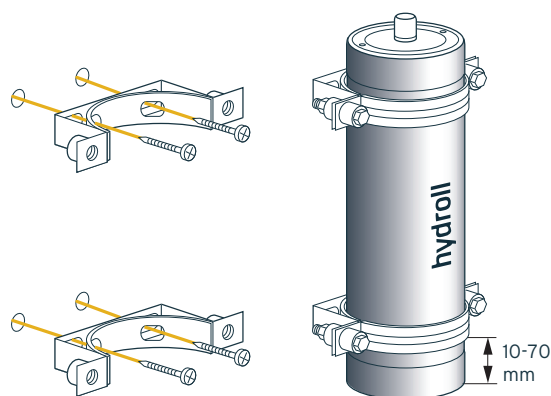

FIGURE 5.3 Recommended clamp positions
7. Attach the accumulator with the clamps provided by the manufacturer as illustrated in Figure 5.3.